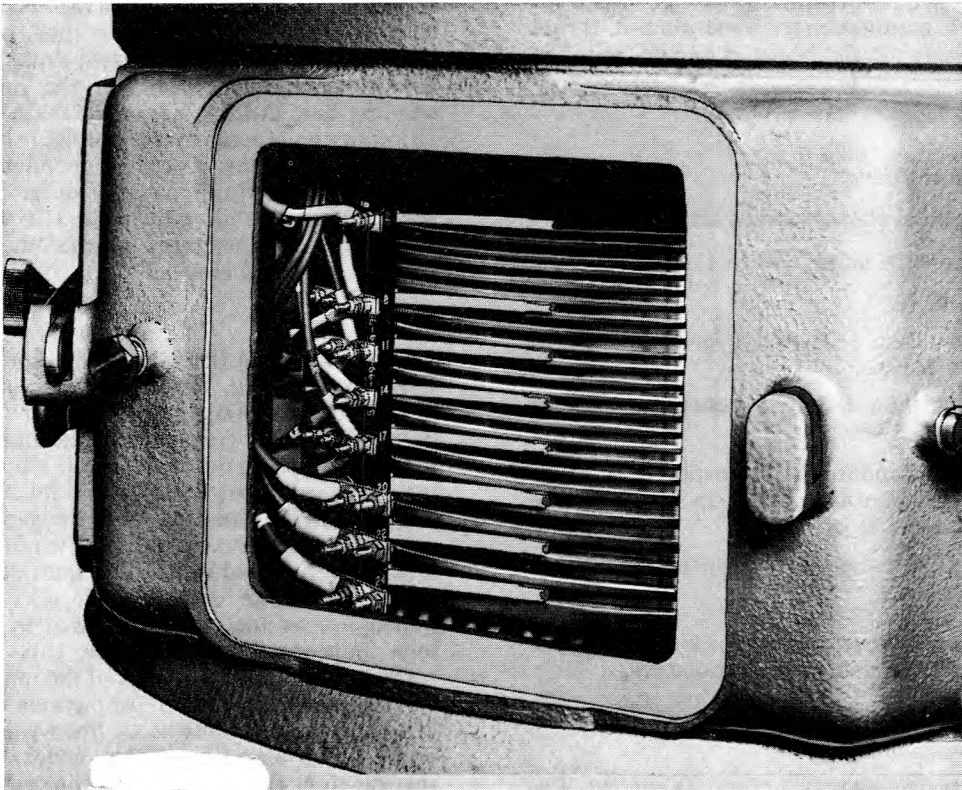

Fig. 3. Brush block unit and sliprings
18. In fig. 7, the circuit diagram for the slipring and brush connections, each brush shown is, in fact, a pair of brushes connected to the same terminal, the identification of the brush block unit to which it belongs being given on the diagram for each brush pair. Each 5A slipring is served from two brush block units and each 30A slipring is served from three brush block units. Slipring numbers are marked near the brush terminals and are repeated on sleeve labels on the connecting wires as shown in fig. 3.
19. The aluminium alloy slipring unit is built round the central part of the rotating joint and employs silver-graphite brushes running on silver sliprings. Details of the brushes and sliprings are shown in figs. 3 and 4. The sliprings, numbered 1 to 24, are of solid silver electro-deposited in a ribbed former made of Araldite and marble dust. Sliprings 2 and 4 carry telephone lines with earth screens either side on sliprings 1, 3 and 5. The silver-graphite tipped brushes are mounted in pairs on silvered beryllium-copper springs attached to six brush block units, labelled XA, XB, XC, XD, XE and XF.